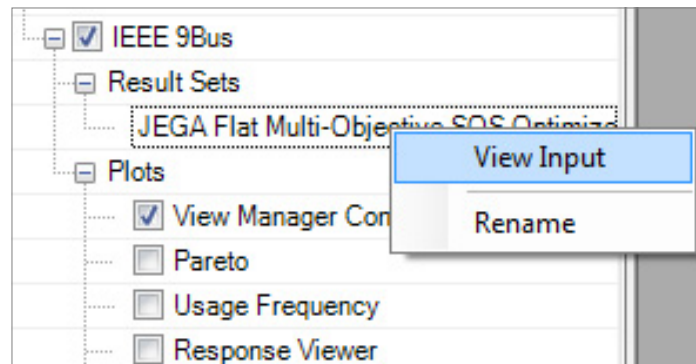

Figure 11. Opening the input set that created this result set.
2. Under the “Result Sets” header, right click on the solution set previously generated by the solver (Figure 11).